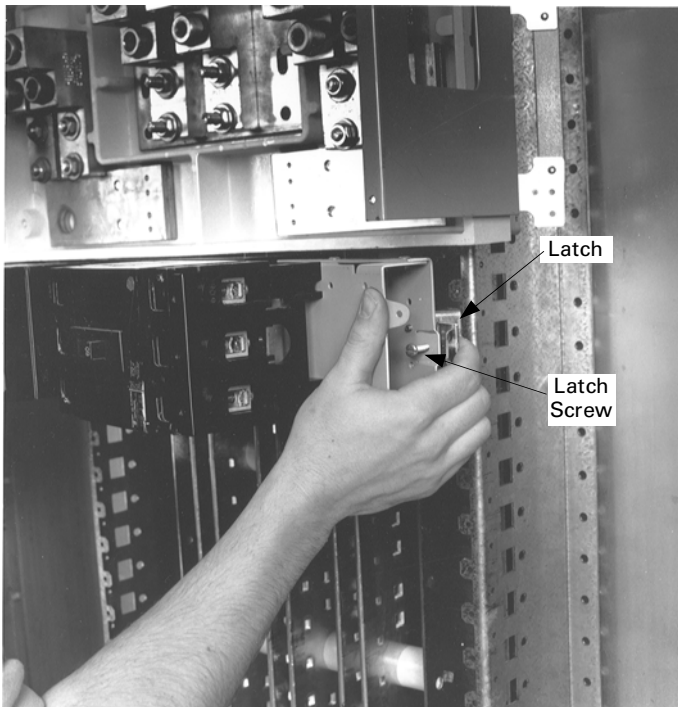

Figure 5. Positioning the breaker module.
4. Position the breaker module. Loosen the latch lock screws and fully retract the latches, as shown in Figure 5. Line up the guide fingers on both ends of the rails with the notches in the panelboard interior rails. Allow no space between units.